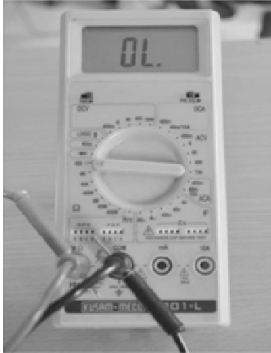

Fig. P8.1: Digital multimeter
1. Connect the circuit on the breadboard as shown in Fig. P8.1.